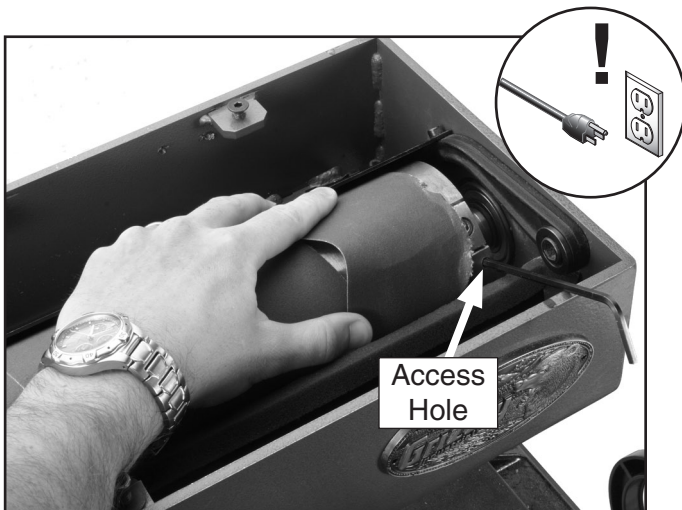

Figure 22. Hex wrench inserted into access hole on right tension wheel.
11. Rotate the drum toward you so the wrench rests against the frame as shown in **Figure 22**.